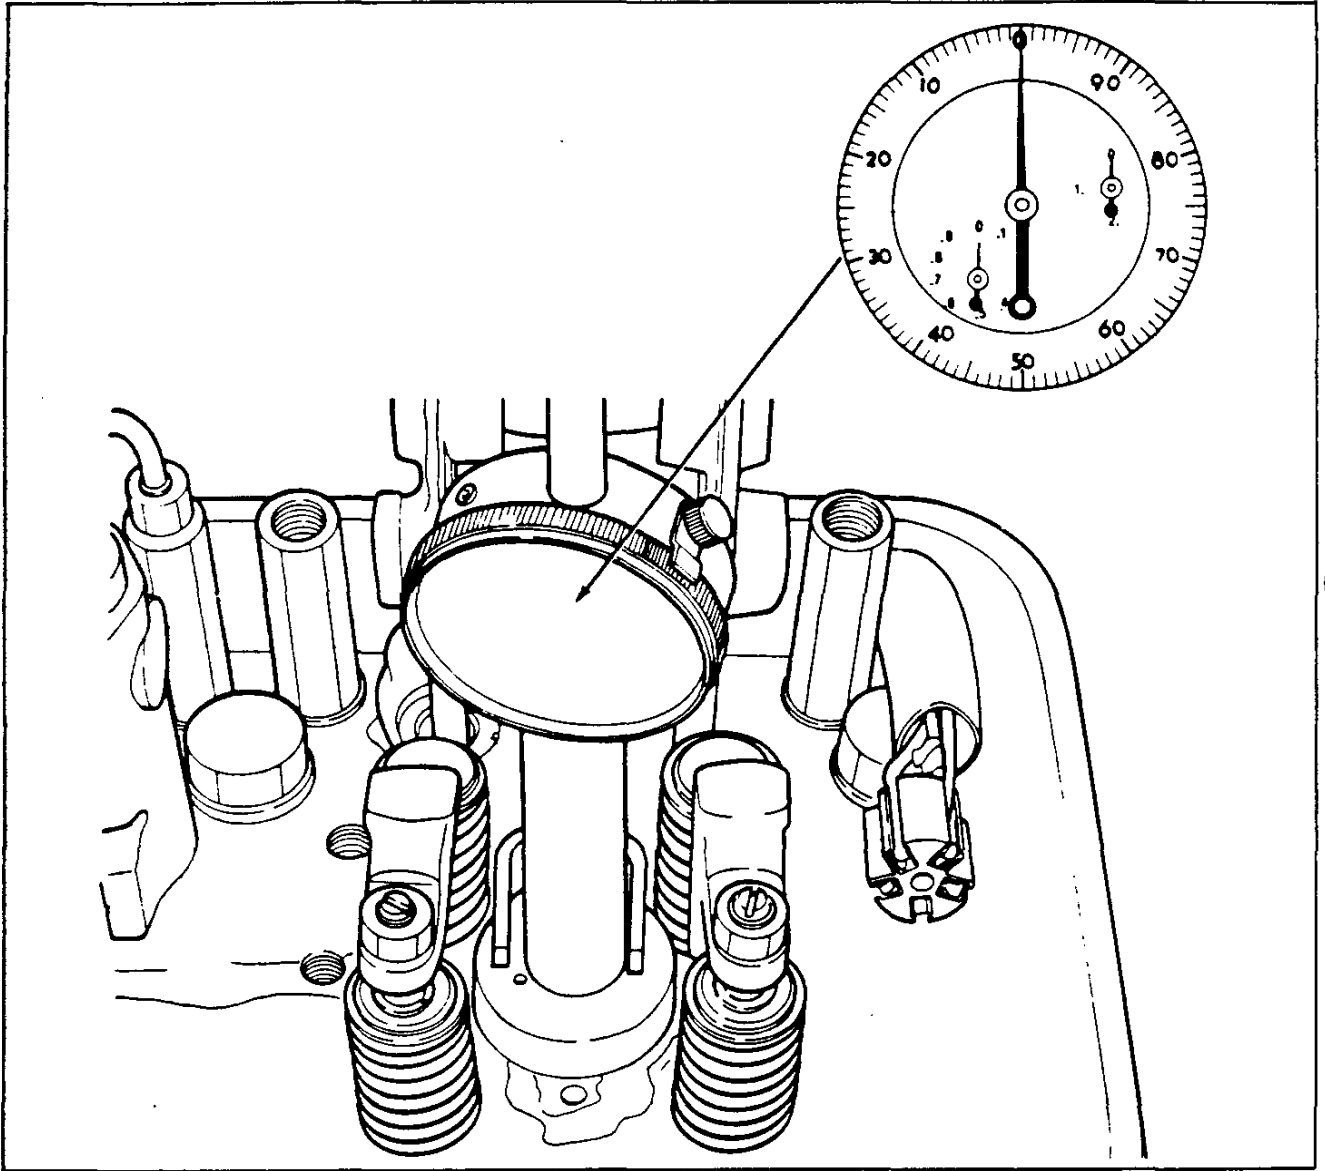

Figure 16D
- e. Before piston downward travel can be measured, the dial indicator must be "zeroed." Loosen the clamp screw and remove the slotted spacer. Lower the dial indicator until the two smaller indicator hands are at "0" and the large hand is near "0" as shown in Figure 16D.